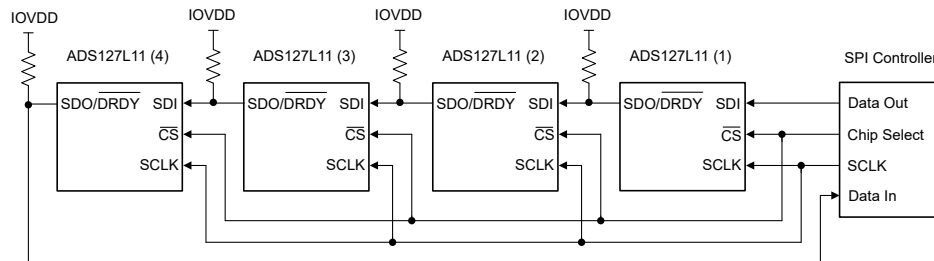
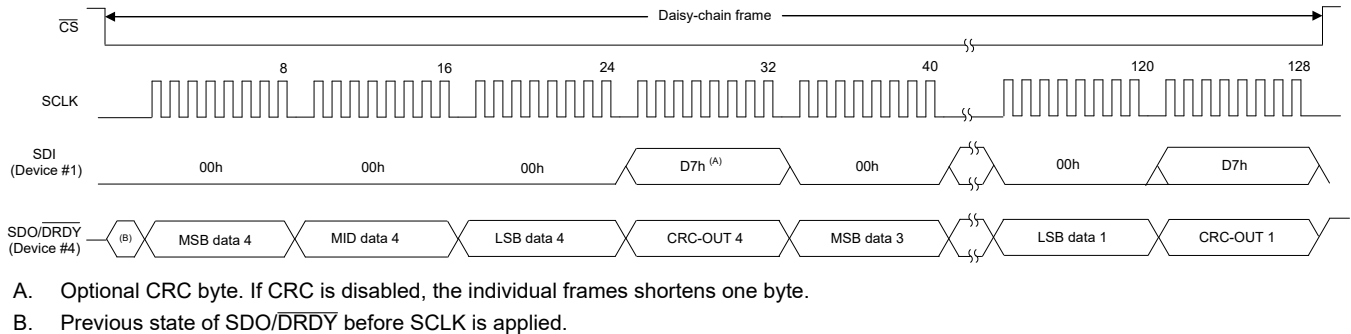

Figure 8-36. Daisy-Chain Connection
Figure 8-39. Read Conversion Data in Daisy-Chain Connection
Figure 8-36 shows four devices connected in a daisy-chain configuration. The SDI of ADS127L11 (1) connects to the host SPI data out, and SDO/DRDY of ADS127L11 (4) connects to the host SPI data input. The shift operation is simultaneous for all devices in the chain. After each ADC shifts out the conversion data, the data of SDI appears on SDO/DRDY to drive the SDI of the next device in the chain. The shift operation continues until the last device in the chain is reached. The SPI frame ends when $\overline{CS}$ is taken high, at which time the data shifted into each device is interpreted. The SDO/DRDY pin must be programmed to data output-only mode.
Figure 8-38 shows the detailed input data sequence for the daisy-chain write register operation of Figure 8-36. 40-bit frames for each ADC are shown (24-bits of data, with the STATUS and CRC bytes enabled). Command operations can be different for each ADC. The read register operation requires a second frame operation to read out the register data.
Figure 8-39 shows the clock sequence to read conversion data from the device connection provided in Figure 8-36. This example illustrates a 32-bit output frame (24-bits of data, with the CRC byte enabled). The output data of ADC (4) is first in the sequence, followed by the data of ADC (3), and so on. The total number of clocks required to shift out the data is given by the number of bits per frame $\times$ the number of devices in the chain. In this example, 32-bit output frames $\times$ four devices result in 128 total clocks.